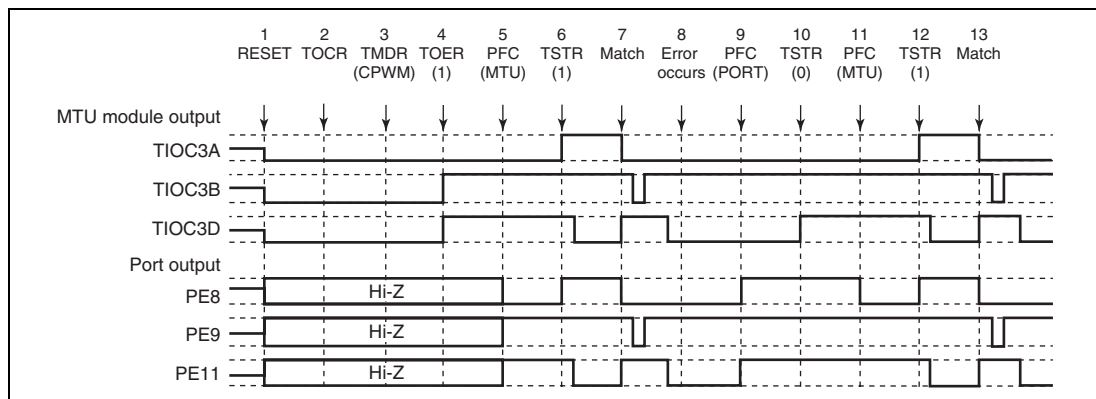

**Figure 11.107 Error Occurrence in Complementary PWM Mode, Recovery in Complementary PWM Mode**
**Operation when Error Occurs during Complementary PWM Mode Operation, and Operation is Restarted in Complementary PWM Mode:** Figure 11.107 shows an explanatory diagram of the case where an error occurs in complementary PWM mode and operation is restarted in complementary PWM mode after re-setting (when operation is restarted using the cycle and duty settings at the time the counter was stopped).